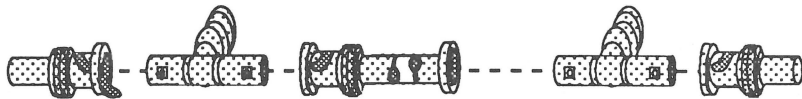

FIGURE 2
- a) Select two T-connectors and two terminators from the terminator kit (Figure 2). For each T-connector, connect the female end of one terminator to one of the male ends on the T-connector.